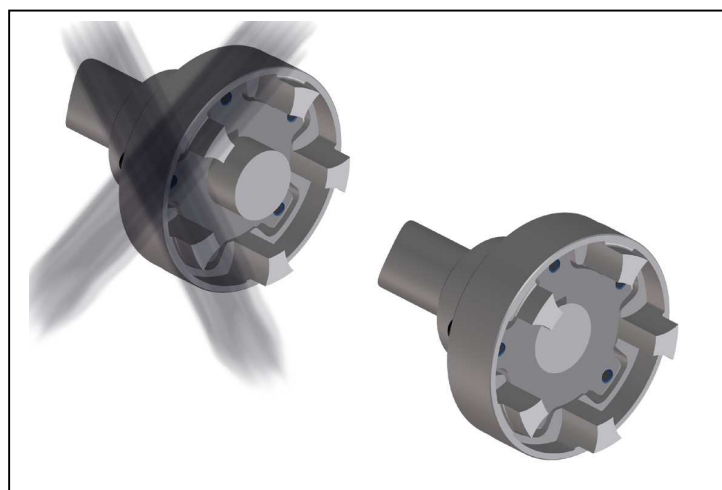

Fig. 5
- Mount the hub in such a manner that the shaft end is flush with the inner bore opening (Fig. 5). Observe other mounting procedures that may have been agreed upon in that regard!